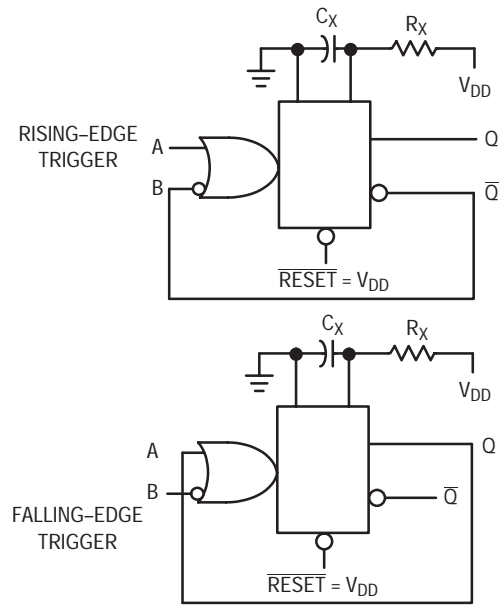

**Figure 11. Use of a Diode to Limit Power Down Current Surge**
- If  $C_X > 15\ \mu F$ , use discharge protection diode per Fig. 11.
When a more rapid decrease of  $V_{DD}$  to zero volts occurs, the MC14538B can sustain damage. To avoid this possibility use an external clamping diode,  $D_X$ , connected as shown in Fig. 11.